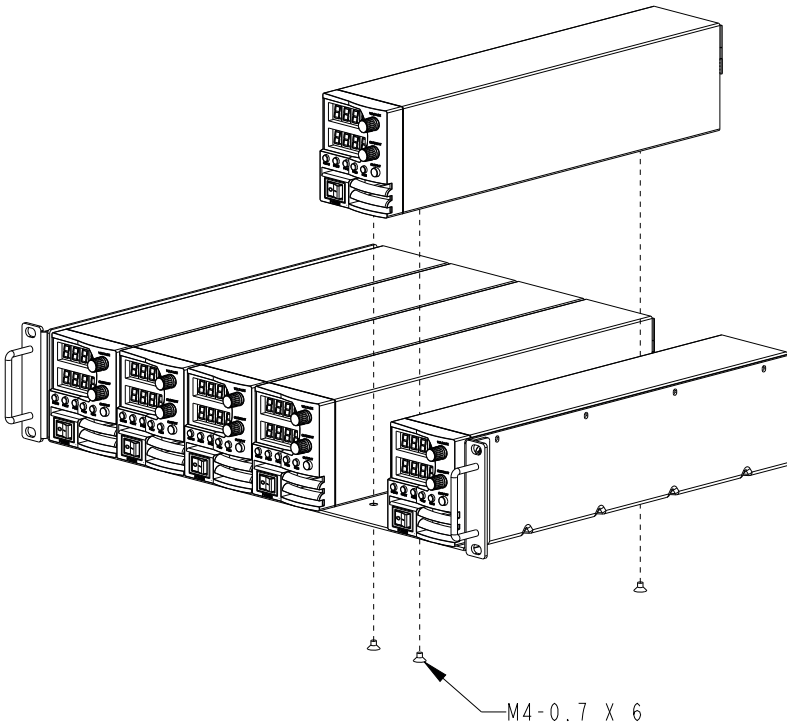

Fig. 3-3: Attach the power supplies to the rackmount shelf
2. Screw the power supplies to the rackmount shelf as shown in Fig. 3-3.